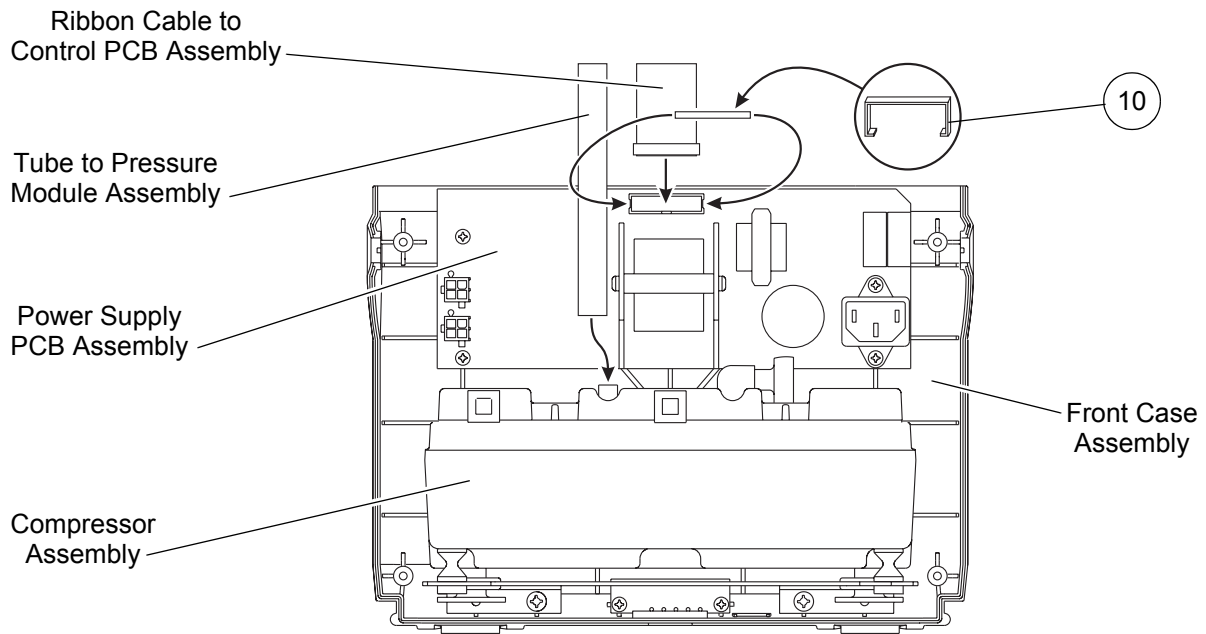
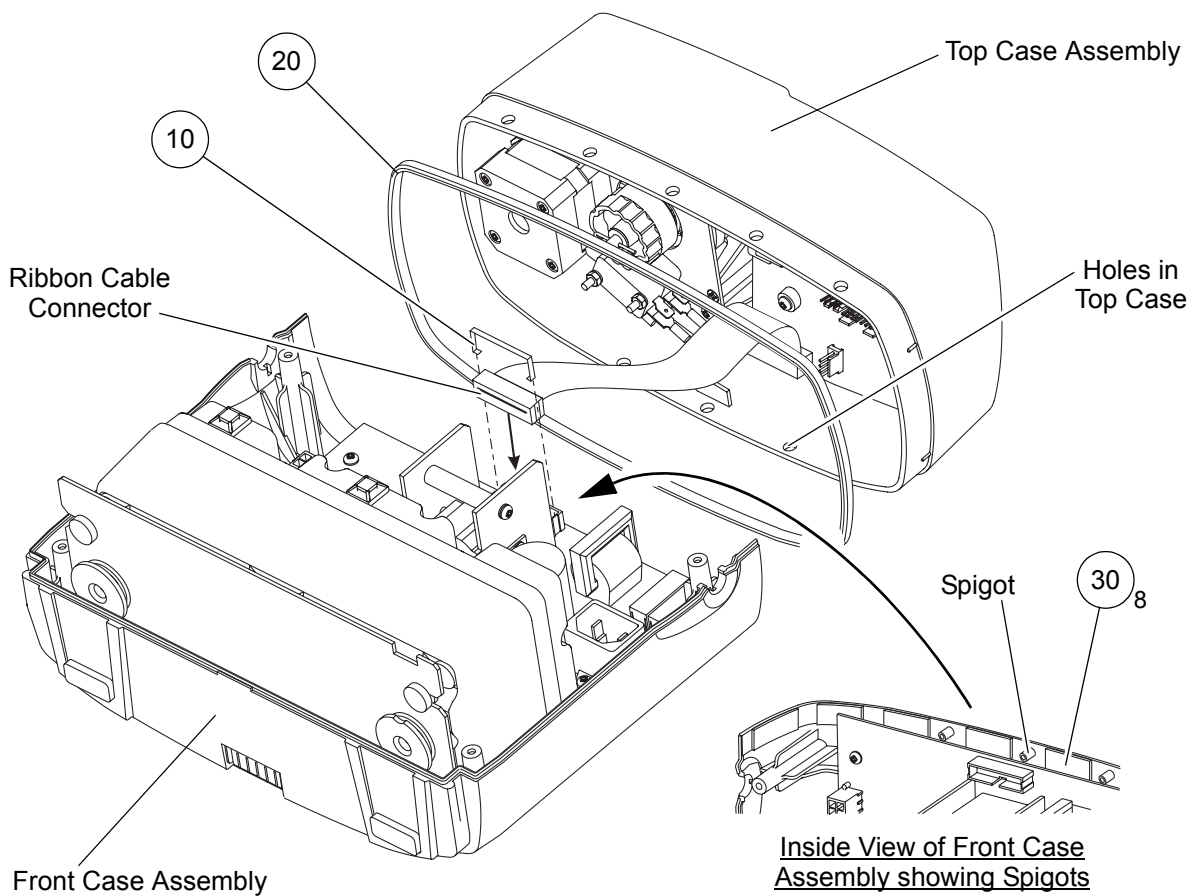

Figure 18 - Connections to Power Supply PCB and Compressor
Figure 19 - Separating the Top Case Assembly from the Front Case Assembly
Note: *A socket retaining clip (Fig 18, Item 10) is installed over the socket on the power supply PCB assembly to prevent the ribbon cable connector from becoming loose or disconnected.*
- 11.2 Pull the large diameter tube off the outlet port on the top of the compressor assembly (refer to Figure 18).
- 11.3 Remove and retain the socket retaining clip (Fig 18, Item 10 and Fig 19, Item 10) from the ribbon cable connector on the power supply PCB assembly. Then disconnect the ribbon cable connector from the power supply PCB assembly (refer to Figures 18 and 19).
- 11.4 The top case assembly is secured to the front case assembly by 8 double-sided sticky pads (Fig 19, Item 30). Separate the top case assembly from the front case assembly by lifting the top case assembly off the three spigots on the front case assembly.
- 11.5 Remove the case style gasket (Fig 19, Item 20) from the top case moulding.
- 11.6 Remove the old sticky pads (Fig 19, Item 30) from the top and front cases. Make sure all traces of the old sticky pads have been **completely** removed.
- 12.3 Install the case style gasket (Fig 19, Item 20) onto the top case assembly.
- 12.5 Put the top case assembly (with case style gasket) into the front case assembly, by locating the three spigots at the top of the front case assembly into the corresponding holes on the underside of the top case assembly (refer to Figure 19).
- 12.7 Connect the ribbon cable connector onto the top of the power supply PCB assembly (refer to Figures 18 and 19).
- 12.8 Install the socket retaining clip (Fig 18, Item 10 and Fig 19, Item 10) over the ribbon cable connector on the power supply PCB assembly.
- 12.9 Push the large diameter tube onto the outlet port on the top of the compressor assembly (refer to Figure 18).